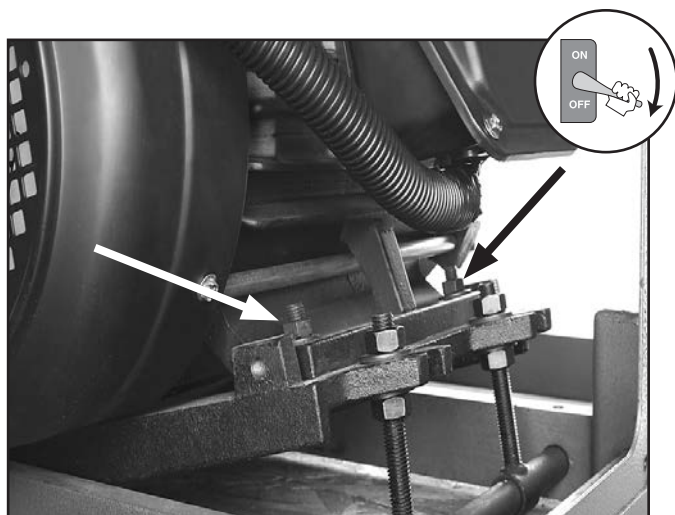

Figure 45. Motor mounting fasteners for adjusting V-belt pulley alignment (bottom rear access panel removed).
- Loosen the fasteners that hold the motor to the brackets (see **Figure 45**) just enough to allow the motor to be repositioned.